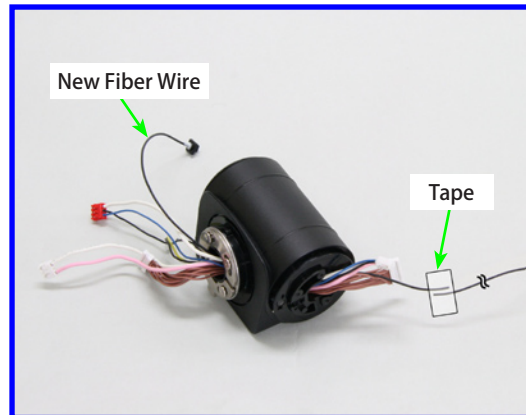

Fig. 034 Replacing the Fiber Wire 2
- ③ Slowly pull on the existing Fiber Wire to pull the new Fiber Wire through the Pivot Ass'y. (Fig. 034)
- ④ Remove the tape and the existing Fiber Wire.